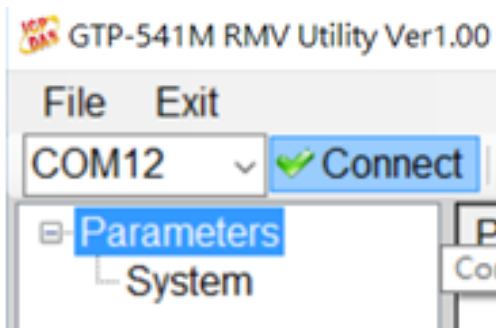

Figure 6.2.2
2. Press the “Connect” button to connect with the GTP-541M, as shown in Figure 6.2.2. If the cable fails, check if the RS-232/RS-485 Comport of the GTP-541M and the PC cable are selected correctly. Is the RS-232 / RS-485 line normal or whether the Init 4th and 5th pins are connected, as shown in Figure 6.2.3.